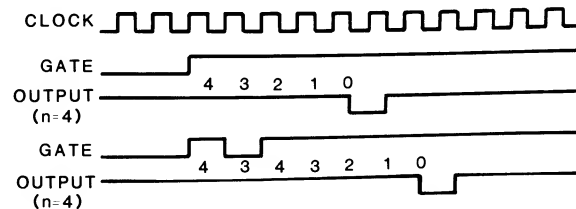

Figure 14-14. Timing Mode 5
**Mode 5** — The counter, when it reaches zero in this mode, will place a single pulse that lasts for one clock cycle on its output. The counter will not start decrementing its value until it senses the rising edge of the gate input. The counter is retriggerable and will reload after it reaches zero. Refer to Figure 14-14.